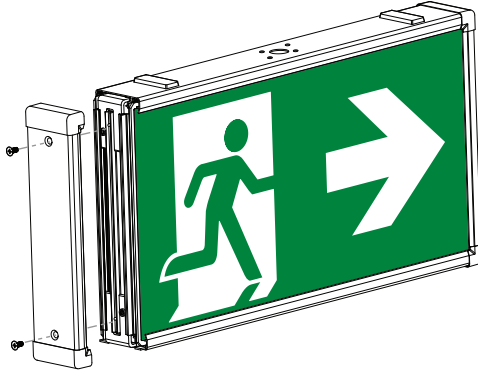

Figure 1: Mercury III Jumbo disassembly
2. Unscrew either side panel with a Phillips screwdriver. Remove the panel by pulling gently away from the product body as shown in **figure 1**.